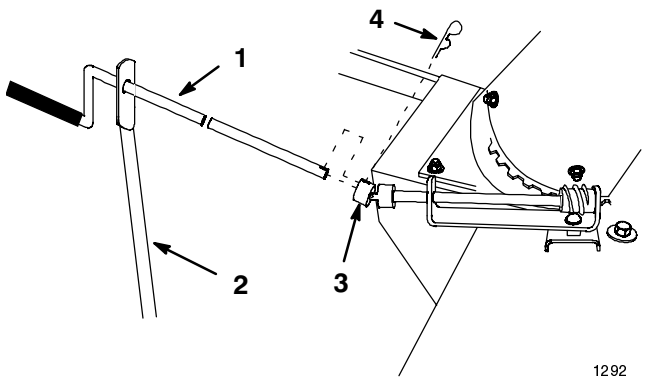

Figure 13
18. Slide crank handle through hole in support and secure handle to U-Joint with hairpin cotter (Fig. 13).